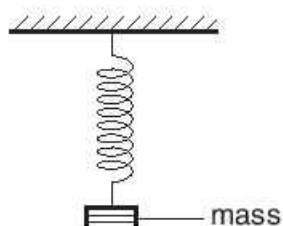

Fig. 3.1
- 11 One end of a spring is fixed to a support. A mass is attached to the other end of the spring. The arrangement is shown in Fig. 3.1.